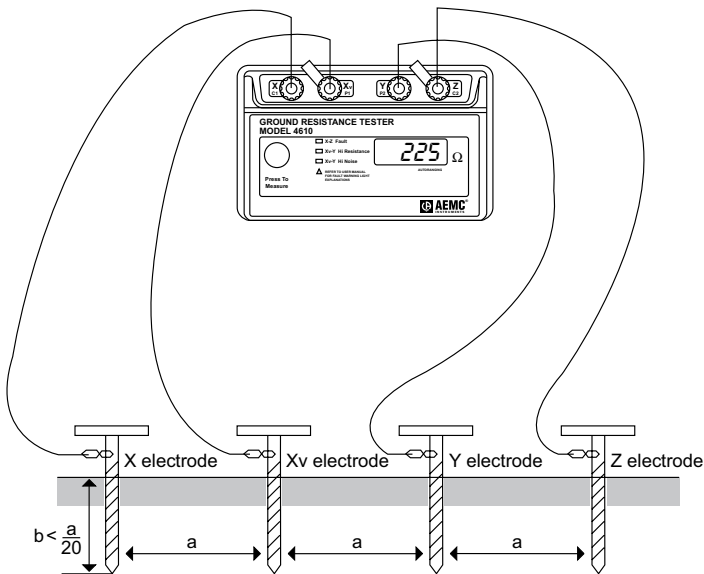

Figure 20
- Arrange the electrodes in a straight line. Be sure that distances between electrodes are identical: e.g. 3 meters between each electrode (See Figure 20).
- Read the resistance level (R) indicated on the display.